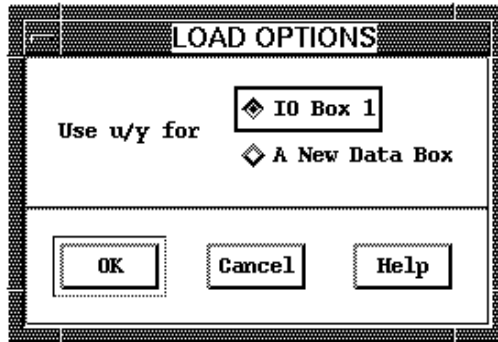

Figure 2.4 The “LOAD OPTIONS” window allows you to determine the destination of the loaded data.
5. The “LOAD OPTIONS” window pops up (Figure 2.4). This window allows you to redirect the loaded data to an existing data box (IO Box 1 in this case) or to create a new data box. Since it is our intention to put the data in the default chain, we will redirect the loaded data to the existing data box. Leave the default selection as it is and hit the OK button in the “LOAD OPTIONS” window.